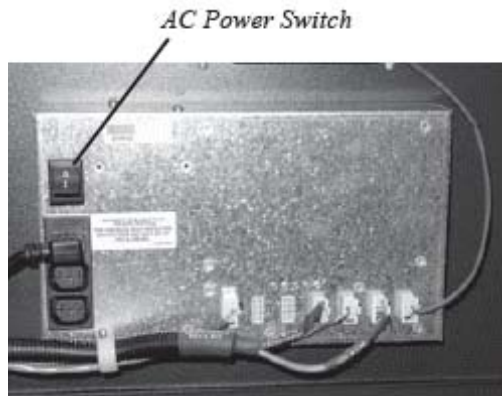

Fig. 7-9. Power supply On/Off switch location.
2. Locate the **ON/OFF** switch on the POWER SUPPLY, as shown in Figure 7-9. Move switch to the **OFF <O>** position.